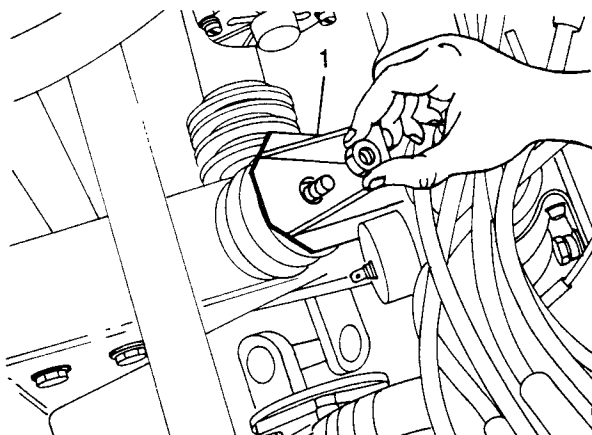

Fig B4.15
- (25) Refer to Fig B4.15. Remove the engine front mountings upper (1) and lower fixings.